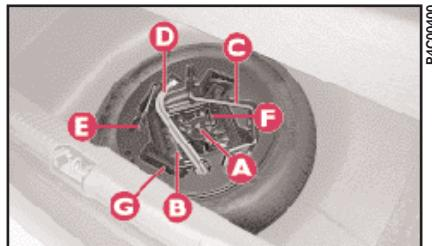

fig. 2
– Unscrew the fastener A (fig. 2) and take out the tool holder.
5) Insert the other three bolts, using extension **F** (fig. 2) (1.2 16V blue version).
6) Tighten the bolts using the special wrench **D** (fig. 2).
To unscrew/screw the inflation valve cap, use extension F (fig. 2).